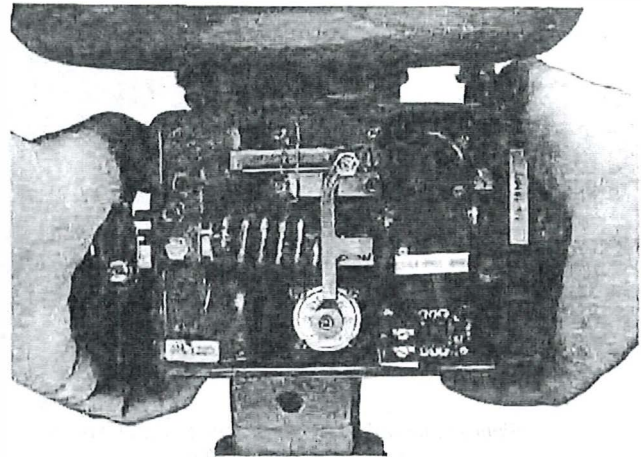
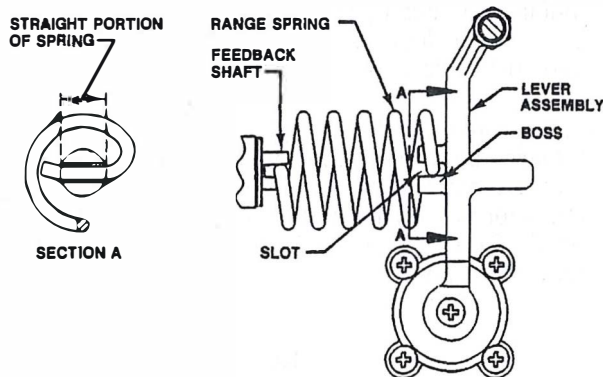
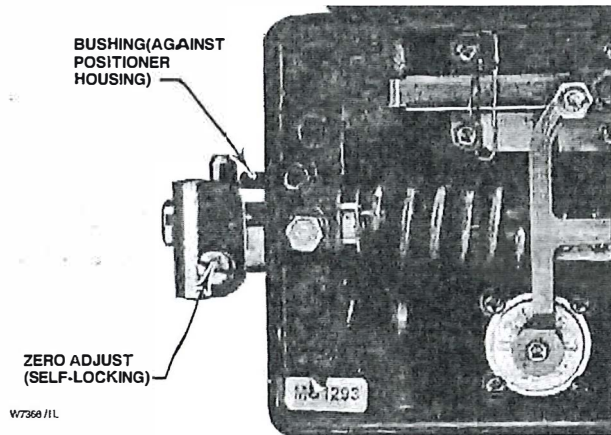

Figure 13. Pressing the Feedback Lever Assembly Bushing into the Positioner
Figure 12. Range Spring Alignment
Figure 14. Feedback Lever Assembly in Operating Position
- Ensure the range spring (key 30) is properly aligned as shown in figure 12, then, as shown in figure 13, place hands on both sides of the positioner and press firmly until the feedback lever assembly bushing shoulder is against the positioner housing (figure 14).
- While holding the feedback lever assembly bushing securely against the housing, tighten the retaining screw (key 19P). The feedback lever assembly bushing should be tight against the positioner housing as shown in figure 14.
- Move the pilot shaft (key 19A) to the approximate span position shown in table 3